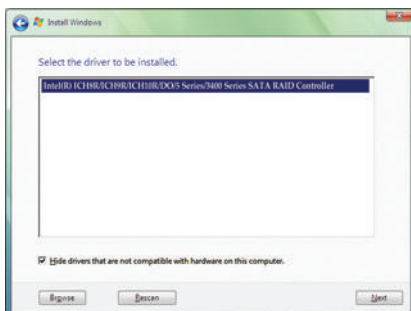

Figure 6
When a screen as shown in Figure 6 appears, select **Intel(R) ICH8R/ICH9R/ICH10R/DO/5 Series/3400 Series SATA RAID Controller** and click **Next**.